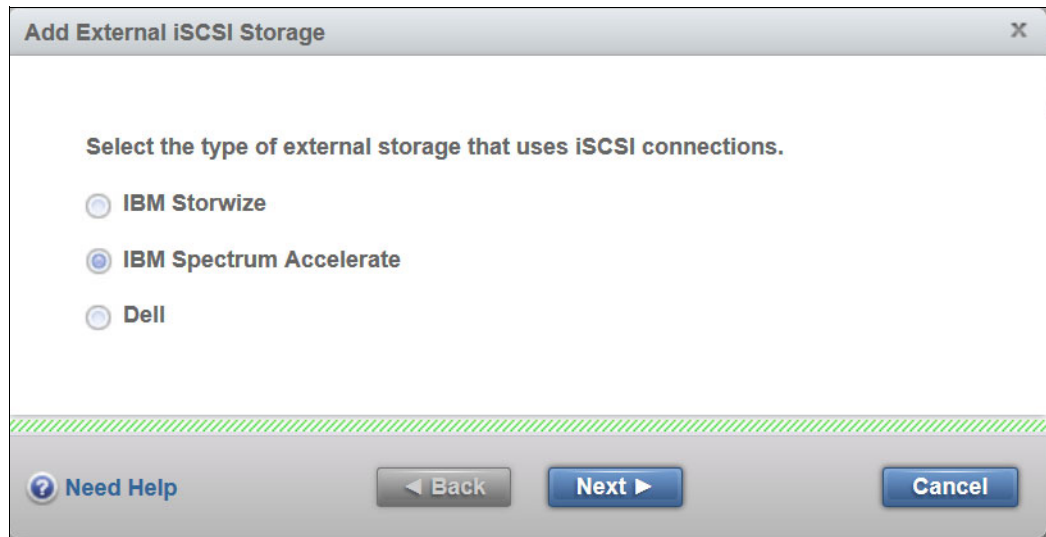

Figure 13-13 Selecting the type of the iSCSI storage controller
2. The dialog box to select the type of the iSCSI controller opens (Figure 13-13). Select **IBM Spectrum Accelerate** for XIV, IBM FlashSystem A9000, and IBM Spectrum Accelerate systems.